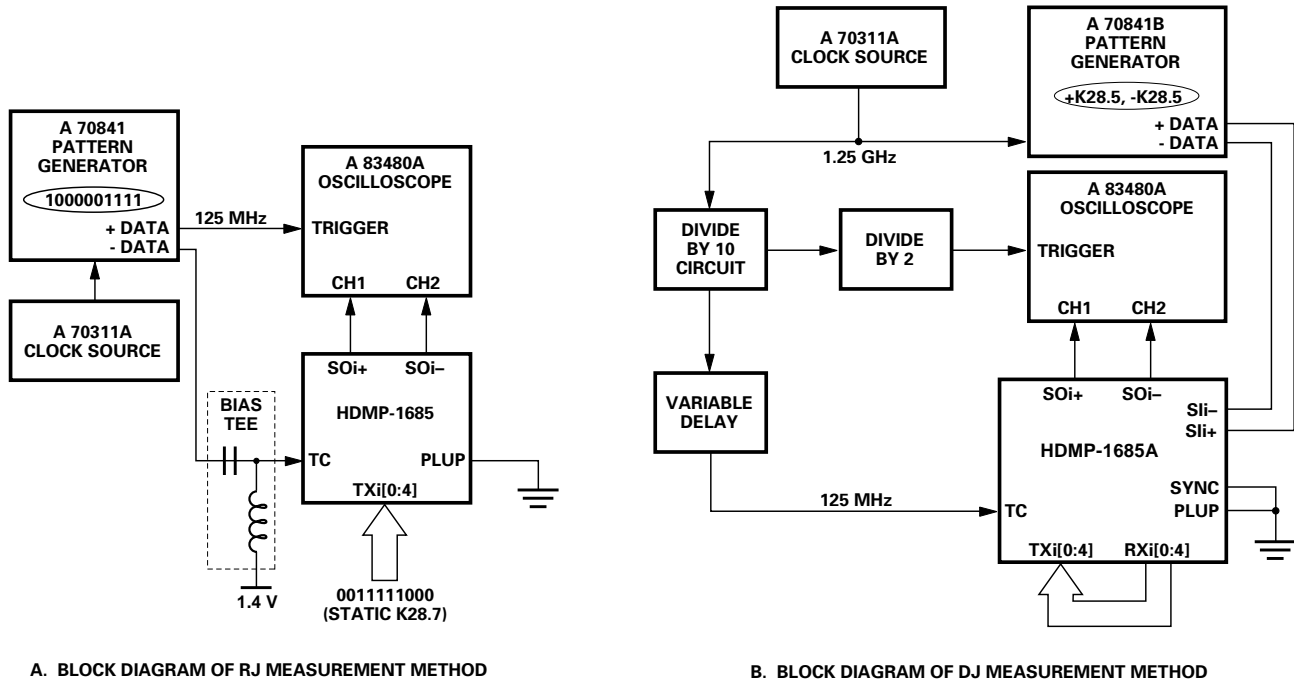

Figure 8. Transmitter jitter measurement method.
- Defined by Fibre Channel Specification X3.230-1994 FC-PH Standard, Annex A, Section A.4 and tested using measurement method shown in Figure 8.